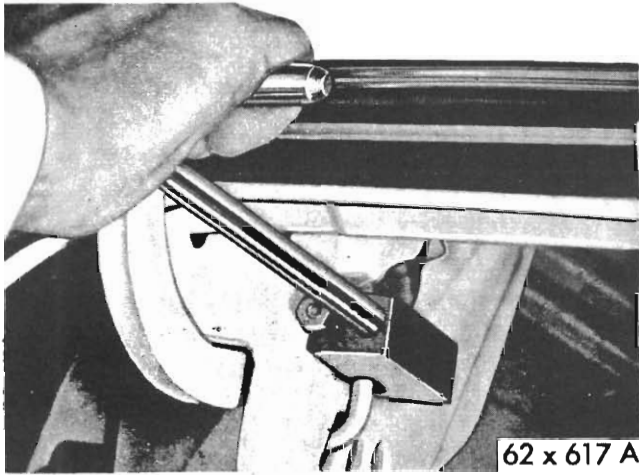

Fig. 21 - Removing or installing torsion bar (typical view)
(1) With a suitable tool installed on the torsion bar, pry torsion bar out of adjustment slots (see Fig. 21).